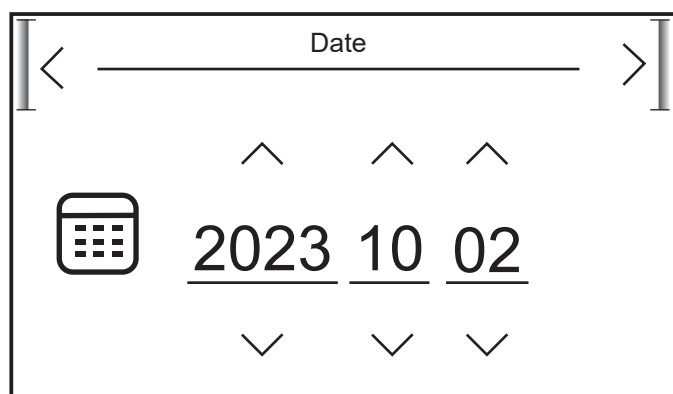

Figure 6-2: Setting date
3. Set the date. Tap the ^ & v to amend the values for year, day and month. Confirm with >. Refer to Figure 6-2.